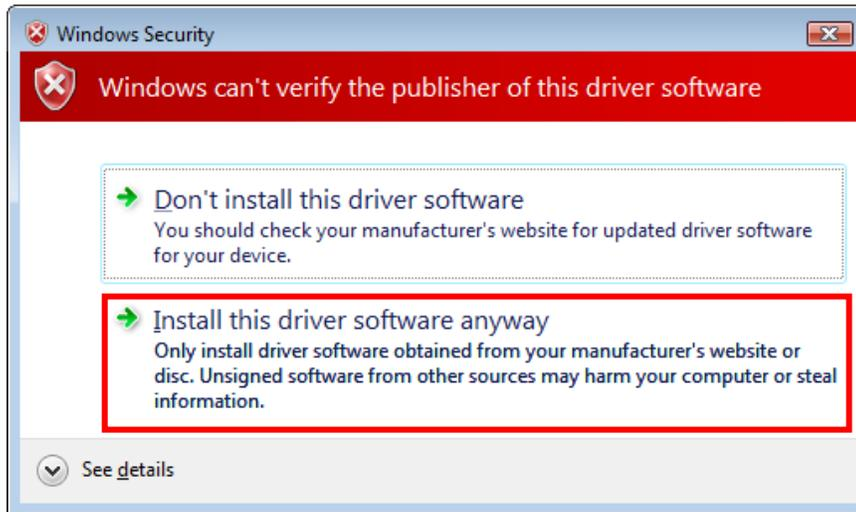

Fig. 1
**\*Note:** Your drivers are digitally signed by Microsoft. However, in the event that a Windows Security warning dialogue box appears as shown in Fig. 1, select **Install this driver software anyway** to continue the driver installation process.